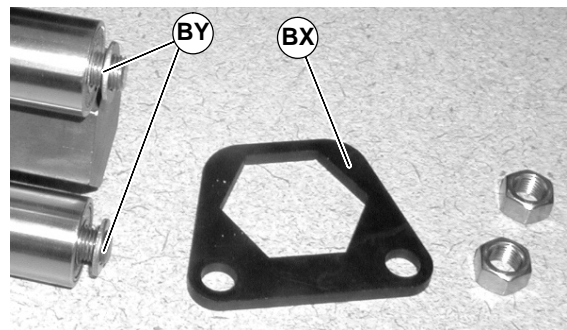

Figure 57
6. Remove support plates (BX of Figure 57) and washers (BY).